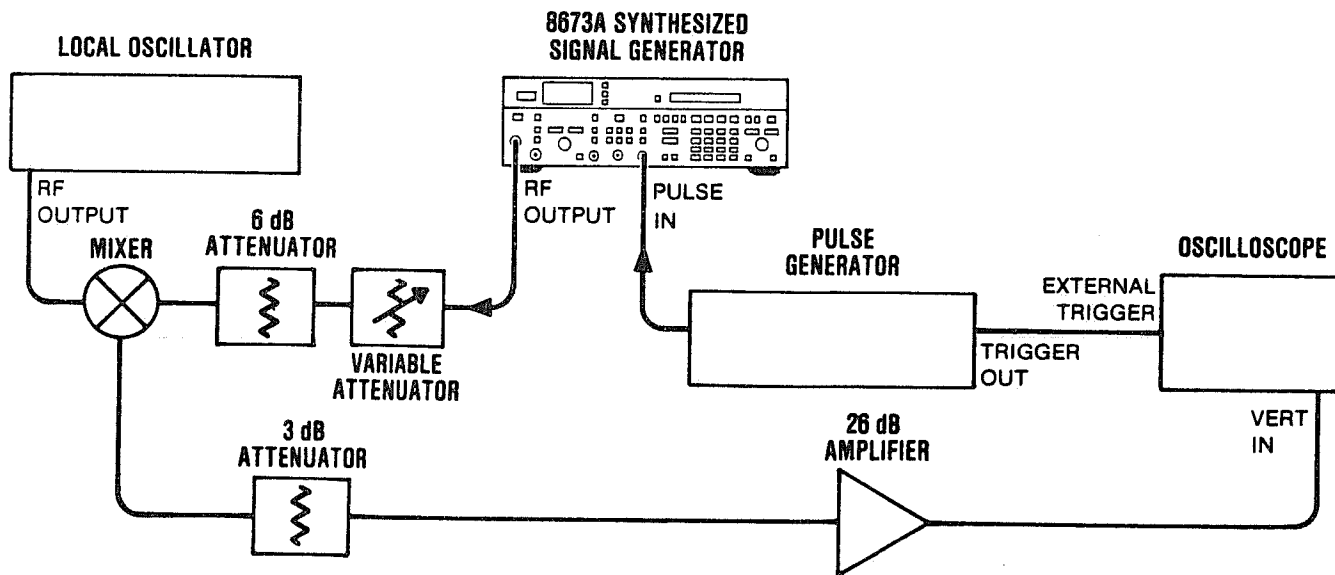

Figure 4-12. Pulse Shape Tests Setup
1. Connect equipment as shown in Figure 4-12.